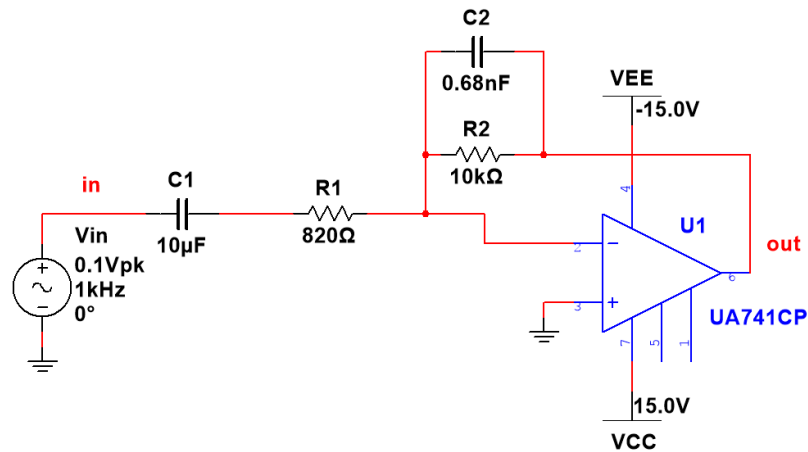

Figure 3. Inverter amplifier based on OA with BW limited by capacitors.
- 0.4 To study the effect of external capacitors on the bandwidth (BW) of an OA-based circuit, the circuit in Fig. 3 will be used. Obtain the theoretical expression of the
15. From the values measured in step 1, calculate the expected values of the gain (G_u) and the cutoff frequencies for the circuit in Fig. 3. Compare them with those obtained in section 0.4 of the previous calculations.
16. Assemble the circuit in Figure 3 on a prototype board. Remember to connect wires for the symmetrical power supply of the OA. Once the circuit is assembled, and before supplying the AO, check ALL the connections using the multimeter using the “continuity” mode.
19. To illustrate an application of the amplifier in Fig. 3 and to analyze its frequency response, we are going to use it as an intermediate stage in an audio processing system. To do this, first connect the speaker directly to the output of the circuit in Figure 3. The speaker is actually a pair of headphones. Once this is done, introduce a sinusoidal signal with an amplitude of 200 mV (peak value) into the circuit (using the function generator) and vary its frequency. Display on the oscilloscope the output (that is, at the headphone connector terminals) obtained at the same time as the audio signal is heard.